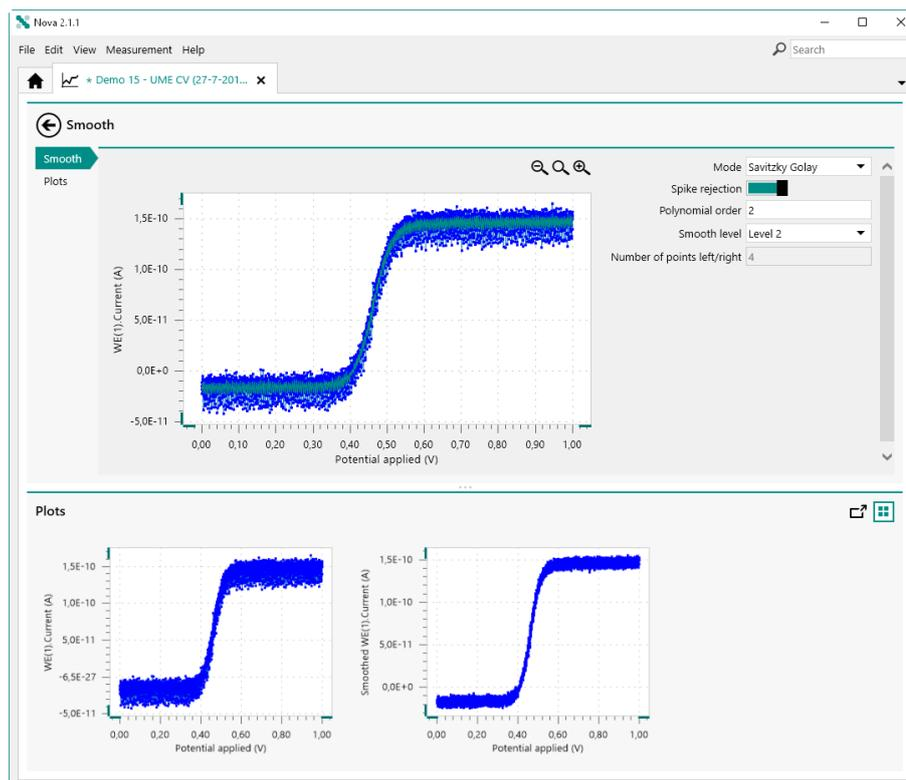

Figure 912 The Smooth command with the default properties of the Savitzky-Golay mode
In *Savitzky-Golay* mode (SG), the **Smooth** command applies a smoothing algorithm based on the Savitzky-Golay algorithm. The properties can be adjusted in the panel on the right hand side (see figure 912, page 751).